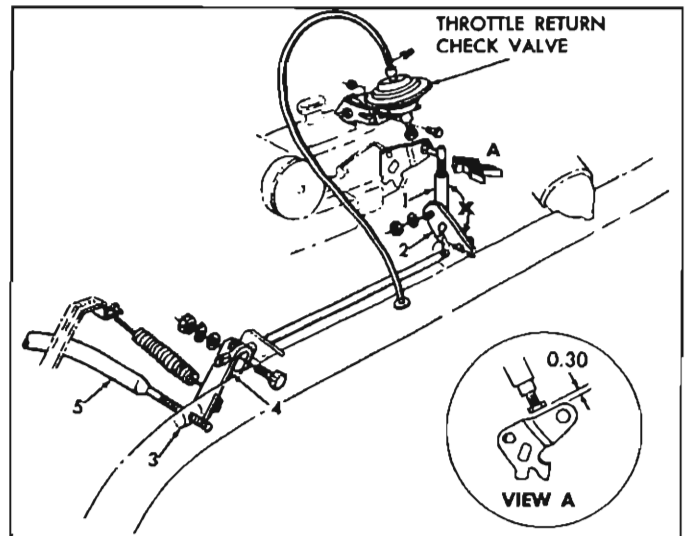

Fig. 9-26—Accelerator Linkage
### Accelerator Linkage Adjustment (Refer to Figure 9-26)
3. Measure clearance between throttle valve lever and return check valve bolt (figs. 9-26 and 9-27) using .030" wire gauge on Tool Set J-21056.